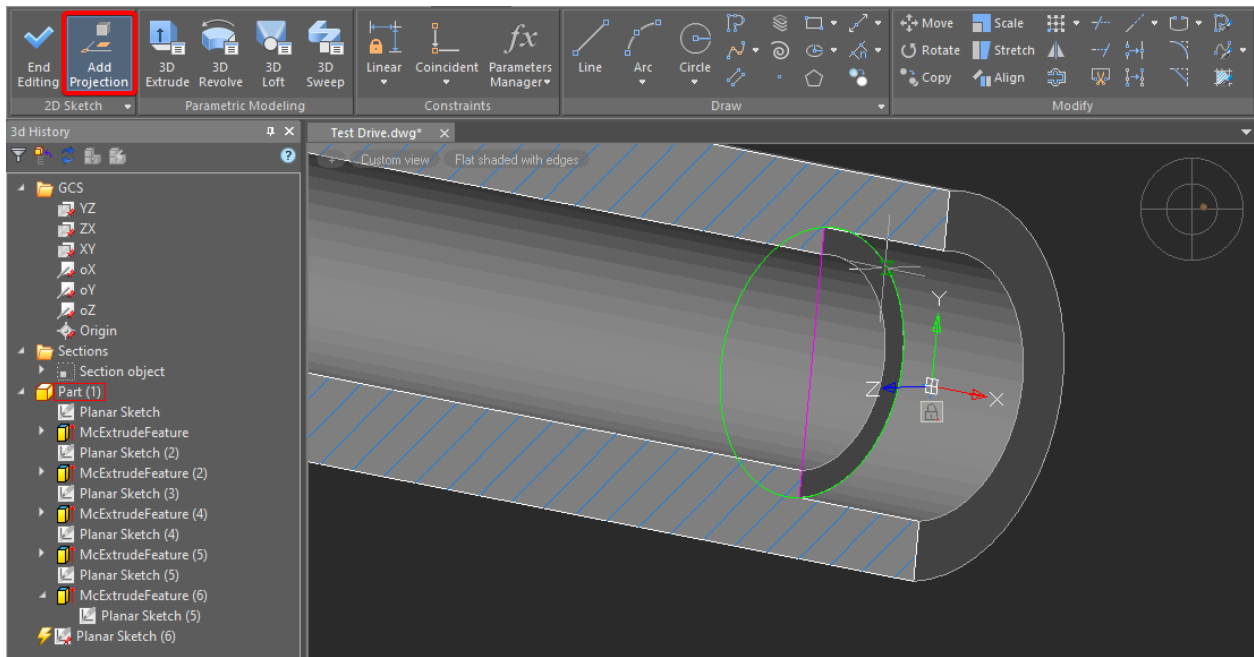

Fig. 15 Projecting an element onto the 2D sketch
5.2. Zoom in the previous construction and project the inner end plane of the hole. Use the **Add Projection** command in the **2D Sketch** group. If needed, you can switch to an isometric view with **Shift** + mouse wheel (Fig. 15).